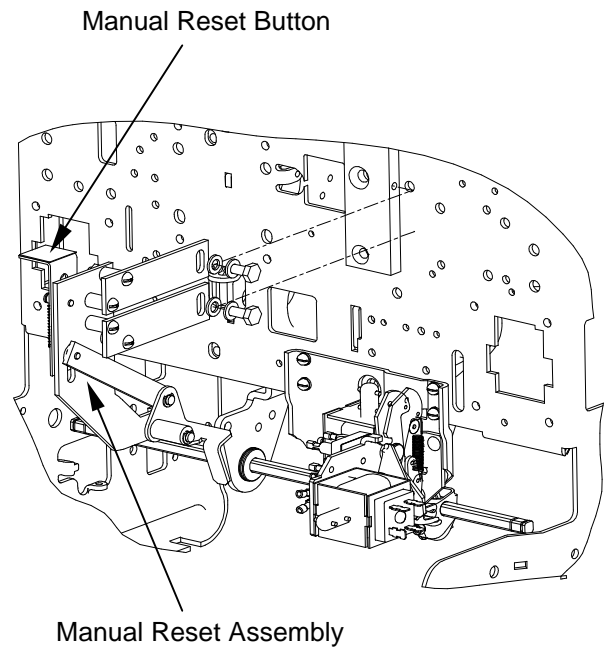

Figure 65. Manual reset assembly mounting
2. Remove the manual reset assembly by removing the two hex-head screws as shown in Figure 65.